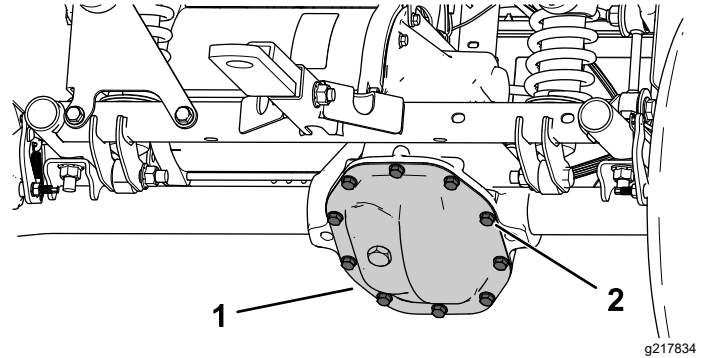

Figure 50
1. Align a drain pan under the transaxle cover (Figure 50).
2. Remove the bolts from the transaxle cover and drain the fluid completely (Figure 50).